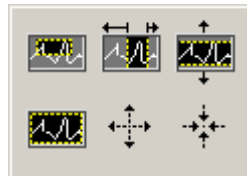

Figure 5: Zoom
- Zoom — Zooms in and out of the display. click the Zoom button and select from the following options, clockwise from the top left, to zoom in and out of the graph (see Figure 5):